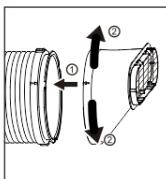

Fig.2
- 2) Use the same way to connect the hose outlet and hose; (Fig. 2)